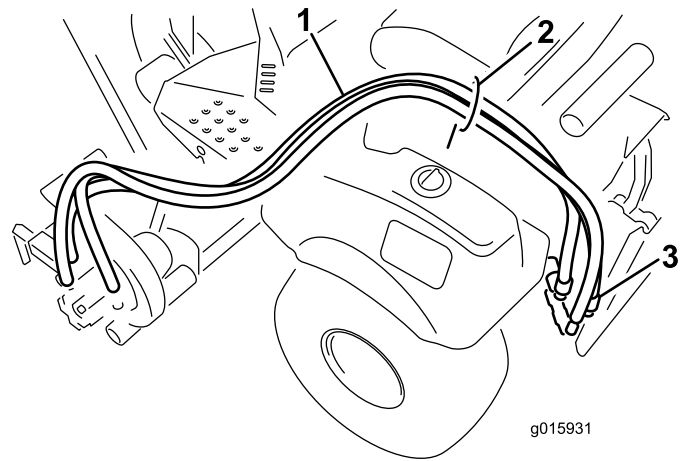

Figure 14
1. Route the hydraulic hoses through the hose guide and to the rear of the machine (Figure 14).
2. Connect the hoses to the rear remote connectors (Figure 14).